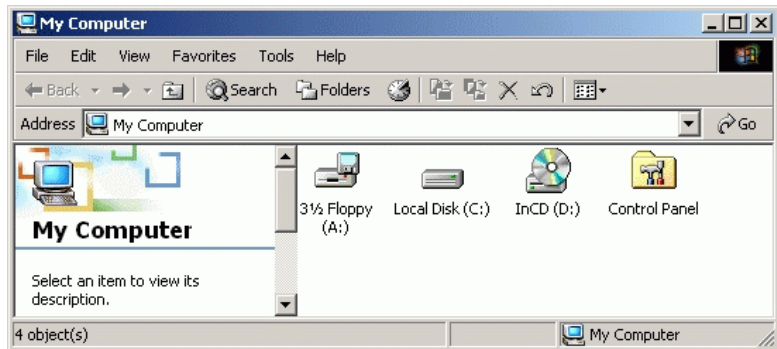

Figure D-27 My Computer Window
4. At the Windows 2000 desktop of the client server, double-click the *My Computer* icon. The *My Computer* window displays \(Figure D-27 on page D-20\).